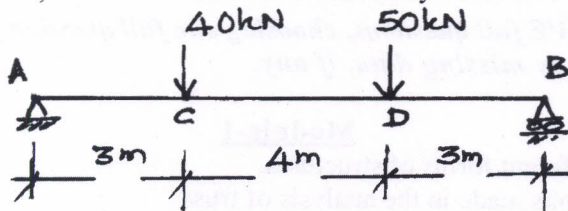

Fig.Q4(b) and Fig.Q4(c)
b. Find the ratio of deflection at C and D for the simply supported beam shown in Fig.Q4(b). Take  $E = 200 \text{ GPa}$ ,  $I = 6 \times 10^7 \text{ mm}^4$ . Use Macaulay's method.
- c. Find the maximum deflection for the simply supported beam loaded as shown in Fig.Q4(c). Use moment-area method. (07 Marks)